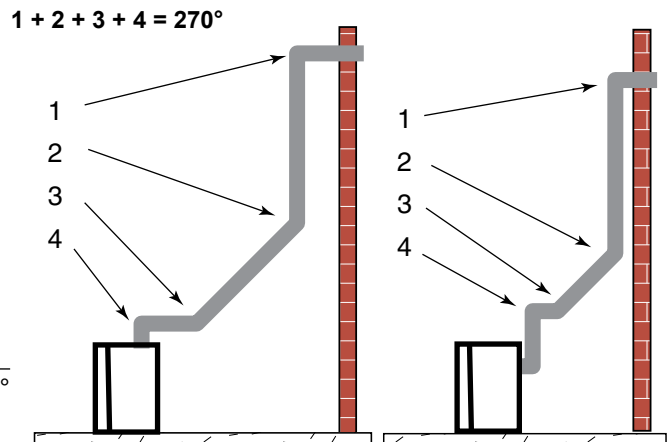

Figure 24 -
- The maximum number of elbow degrees in a system is 270°. Figure 24